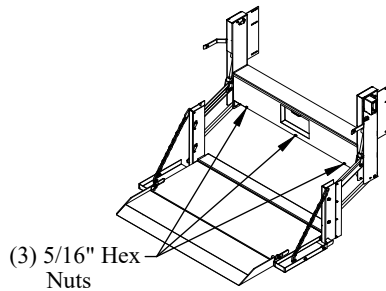

Figure 12: Box cover location.
2. **Mark** two (2) 1/4" hole locations on the truck body using the tube holder as a guide.
3. **Check** for obstructions and **Drill** two (2) 1/4" holes in the positions marked in step 2.
4. **Fasten** the tube holder with the supplied two (2) 1/4"x3/4" bolts and two (2) 1/4" locking nuts.
5. **Remove** and **Discard** the black plastic plug in the rear of the liftgate for spare tire tube access (Figure 12).
1. **Remove** the box cover by removing the 5/16" hex head bolts or nuts (Figure 12).